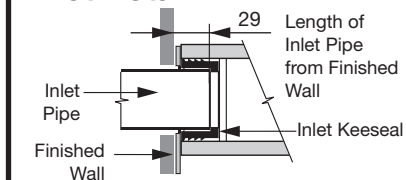

Fig. 4
- 4- Set the inlet pipe to 29mm from the finished wall, as detailed in **Fig. 4**.